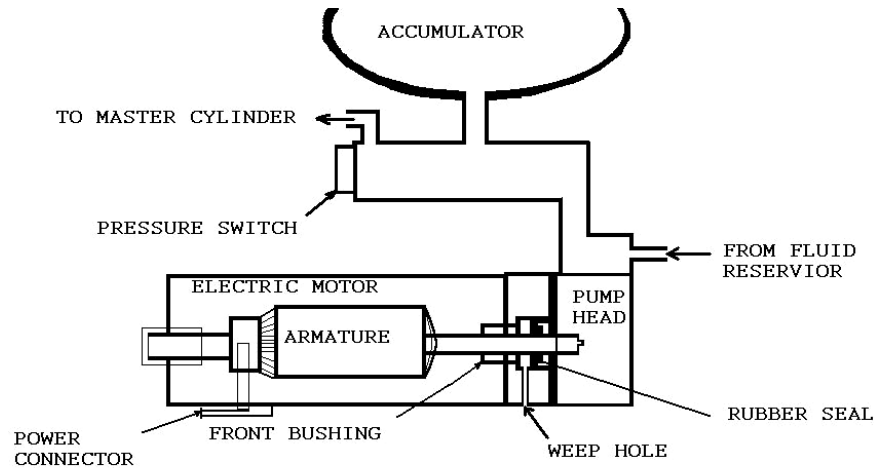

Figure 2 Electric Pump and Hydraulic Accumulator Assembly
2) Electric Pump and Hydraulic Accumulator Assembly (Figure 2)